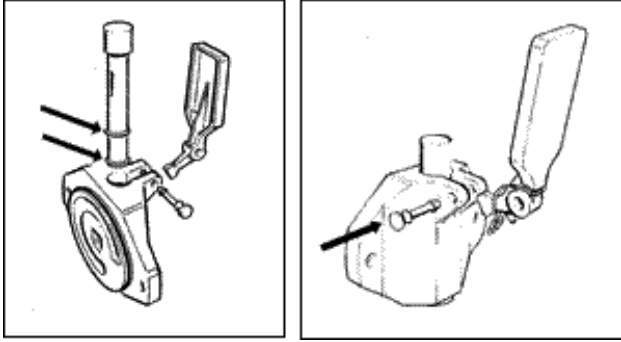

Fig. 51
- After installing the piston seals and lubricating them as necessary (Fig. 51), insert the piston into its housing in the flange, mount the dispensing lever together with its spring and connect them with the fixing pin (Fig. 51).